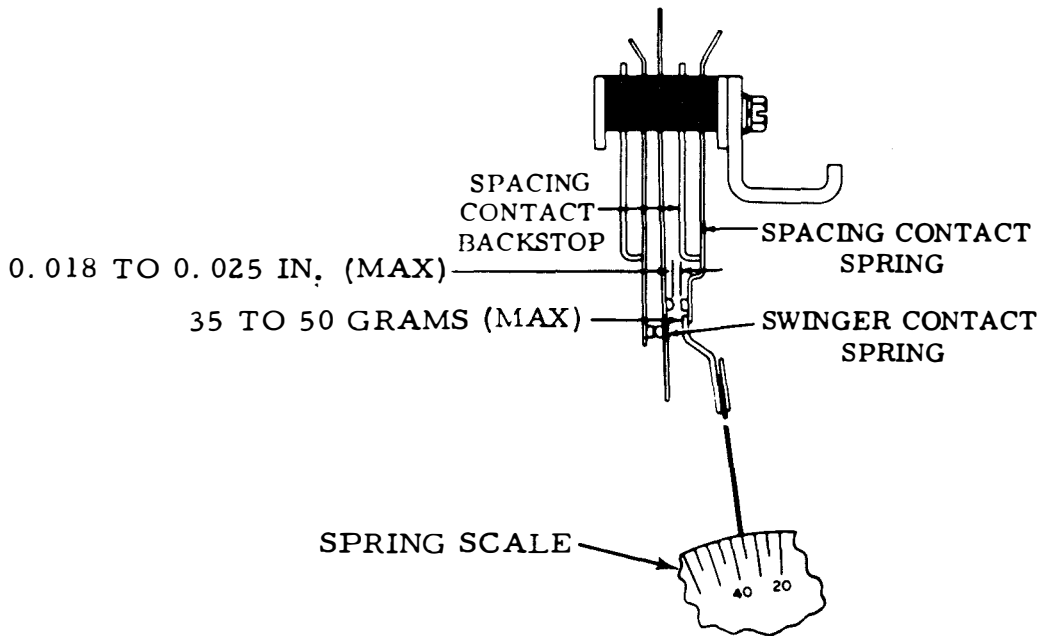

Figure 6-197. Spacing Contact Backstops and Spacing Contact Springs
- (a) Refer to figure 6-197.
(5) Spacing Contact Springs (Preliminary) (Transfer Type Contacts Only).